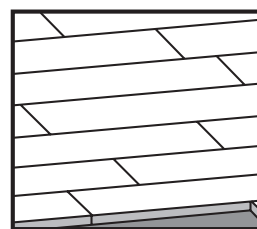
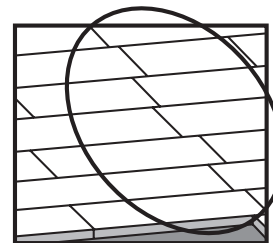

FIGURE 1.1 (CORRECT)
FIGURE 1.2 (INCORRECT)
**STEP 5:** Install the balance of the floor with a hardwood flooring nailer, always keeping in mind to space the strips / planks so as to avoid unsightly clusters of end joints (see figure 1.1 and figure 1.2). If possible, a minimum distance of 150 mm (6") should be left between the planks and adjacent rows to avoid aligning the joints.